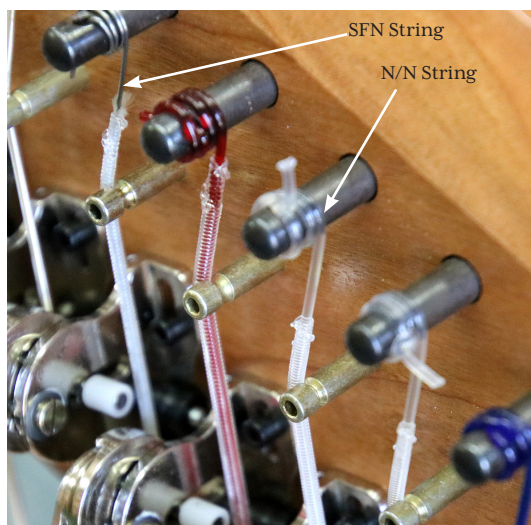

FIG. 6
- ___5. Figure 6 shows SFN and N/N strings successfully installed on the harp.